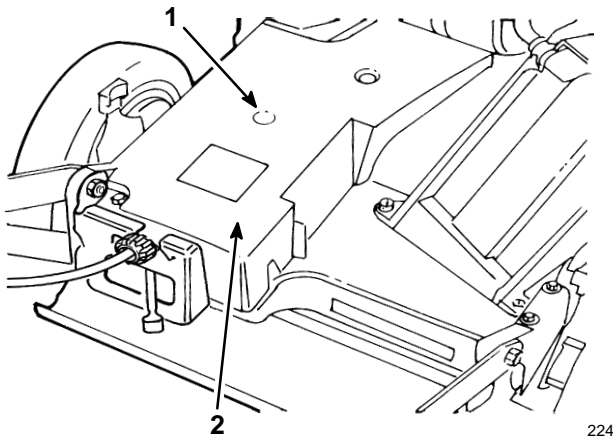

Figure 28
2. Install grease gun onto fitting thru belt cover opening (Fig. 28). Gently apply 1–2 pumps of grease.
1. Remove bolts securing belt cover (Fig. 28) to mower housing. Lift off cover and brush out all debris from belt area. Reinstall belt cover.